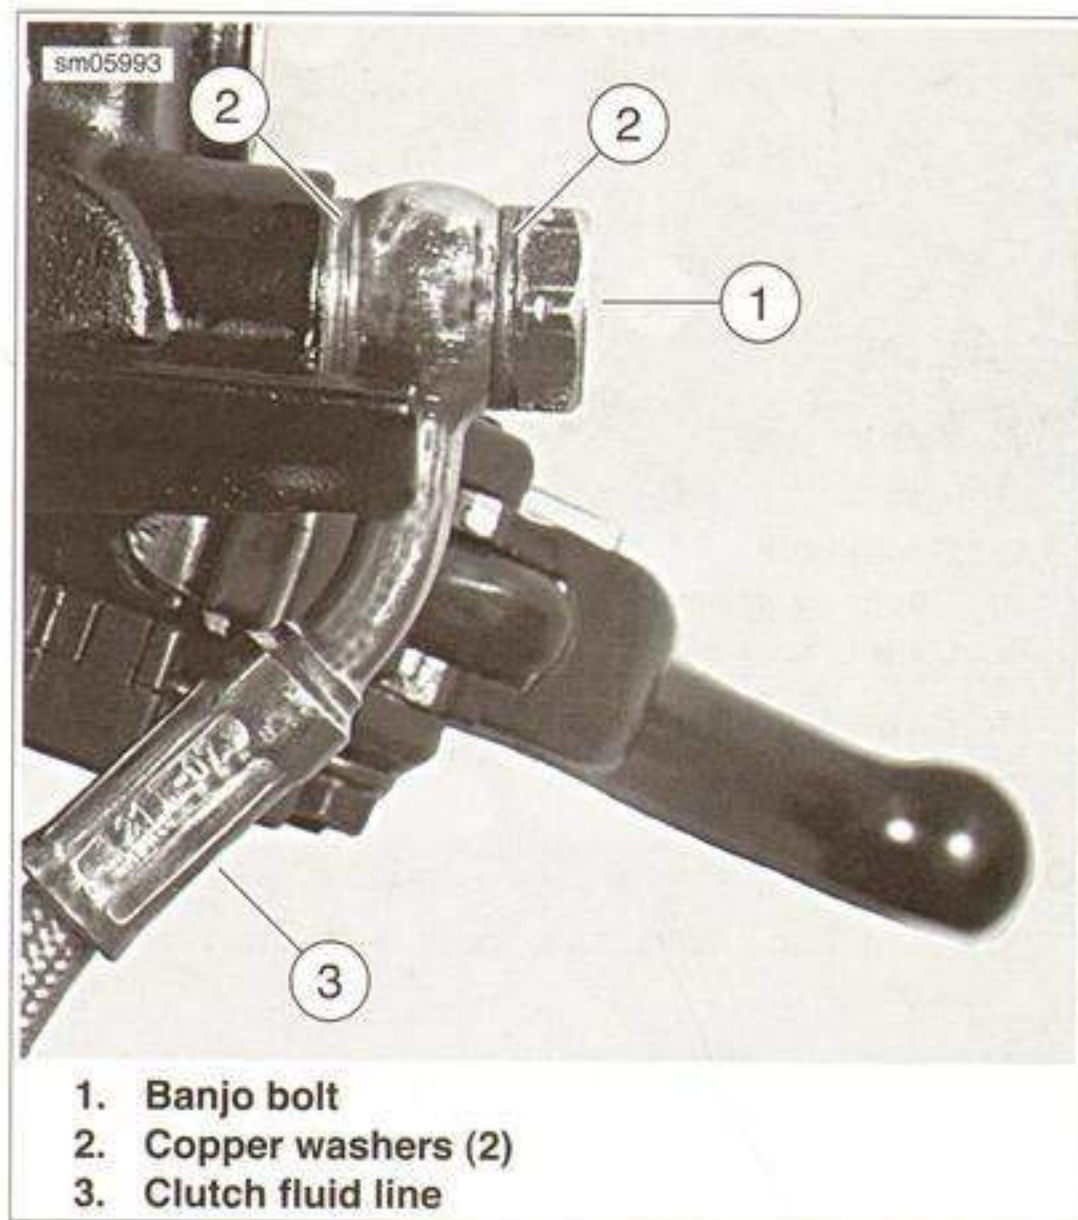

Figure 6-11. Clutch Master Cylinder Banjo Bolt
2. See Figure 6-11. Remove banjo bolt (1), copper washers (2) and clutch fluid line (3) from clutch master cylinder. Discard copper washers.